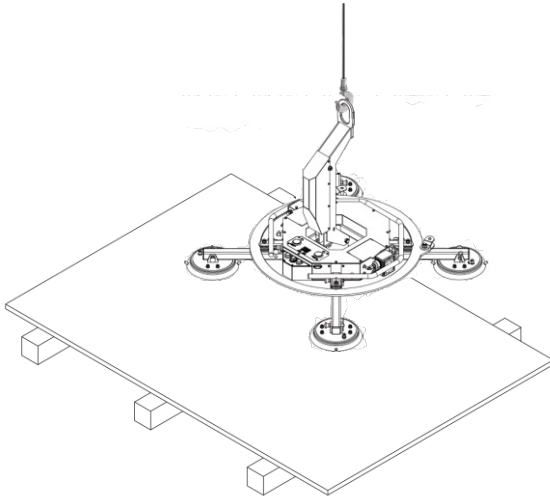

Figure 2.2
**Step 2:** Move the lifer near to the lifted glass sheet (Figure 2.2)